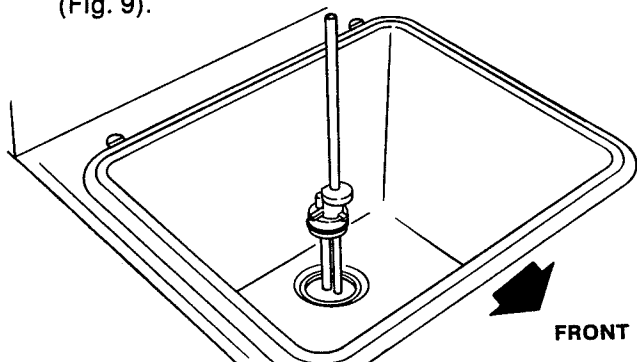

Figure 9. Mix Inlet Regulator
- A. Push the mix inlet regulator into hopper with air inlet (long) tube toward the front of the freezer (Fig. 9).